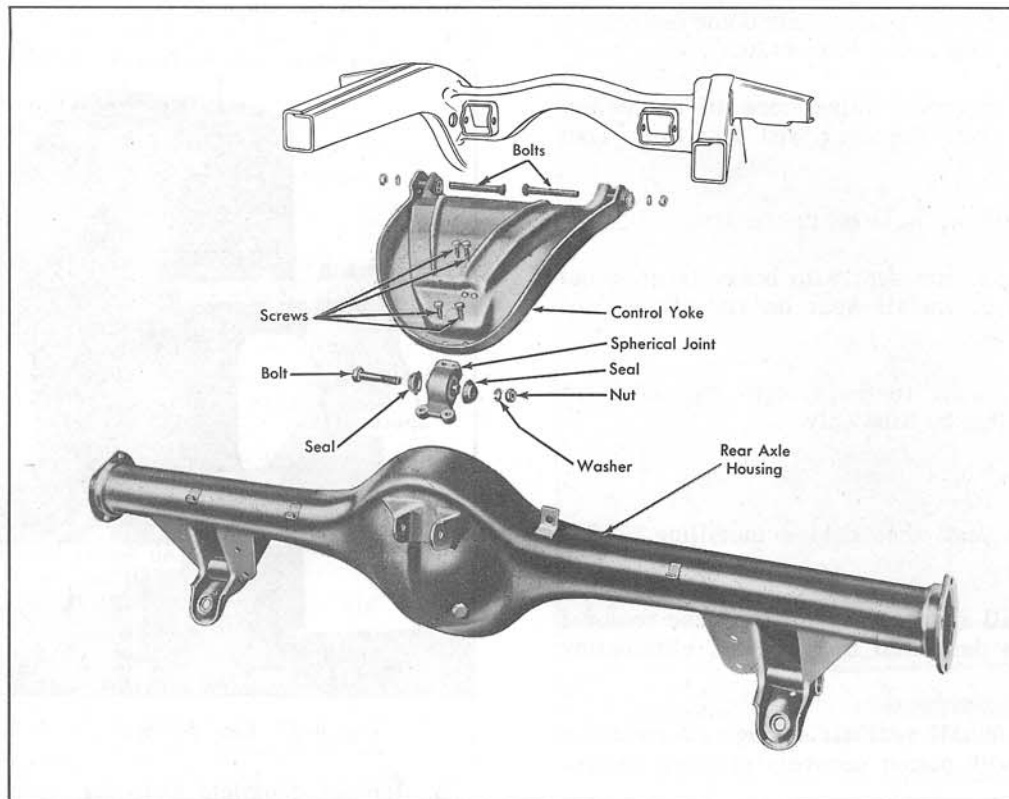

Fig. 4-28 Control Yoke Removal
5. Disconnect rear end of upper control yoke by removing four mounting screws that secure yoke to spherical joint on top of differential housing, Fig. 4-28. Yoke will spring up to its design height position. Note this position by measurement as control yoke front attaching bolts must be torqued with yoke in this position when yoke is installed.